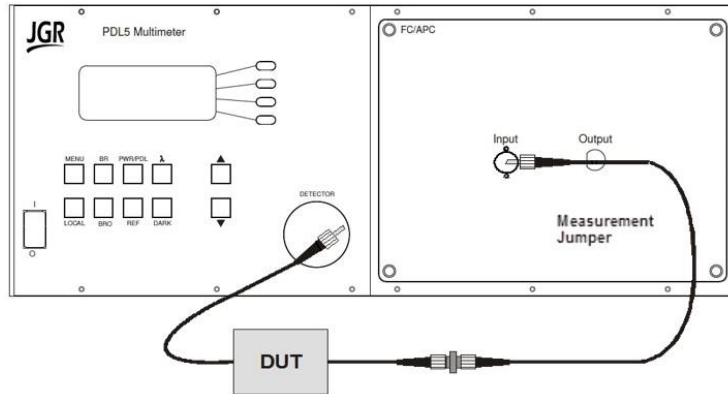

Figure 12: Measuring ILa and PDL
4. Clean the output connector of the measurement jumper and the input connector of the DUT, and connect the two together. Connect the output connector of the DUT to the detector on the front of the meter. The meter displays the DUT IL_{avg} and PDL (see Figure 12).